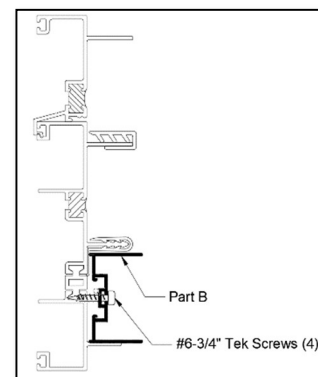

Figure 2
Install jamb profile with magnetic strip (part B) on to door jamb channel using # 6-3/4" Tek screws (4) evenly spaced. (See fig. 2)